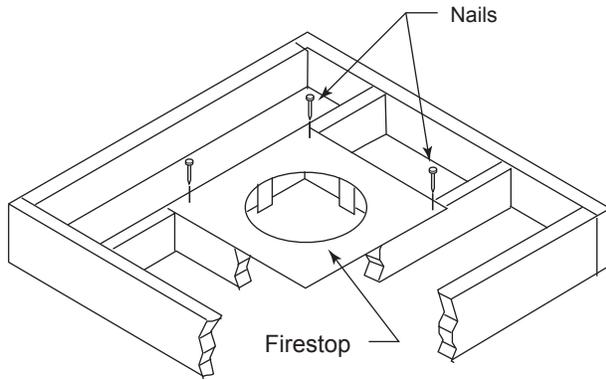
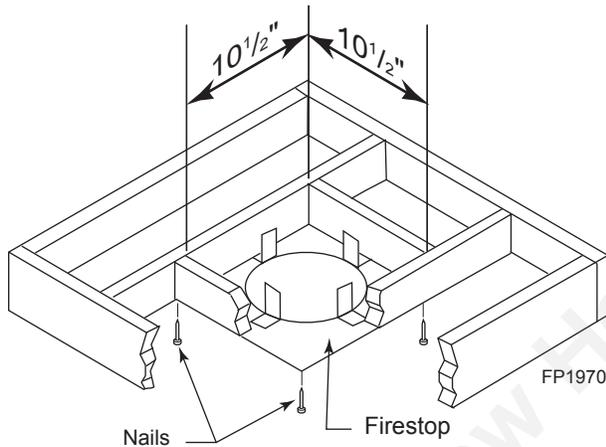

Figure 38 -
Figure 39 -
1. Cut a 10½" (267 mm) square hole in the ceiling using the locating hole as a center point. The opening should be framed to 10½" x 10½" (267 x 267 mm) inside dimensions as shown in Figure 39 using framing lumber the same size as the ceiling joist. If the area above the ceiling is an insulated ceiling or a room, nail firestop from the top side. This prevents loose insulation from falling into the required clearance space. Figure 39. Otherwise, install firestop below the framed hole. The firestop should be installed with no less than three (3) nails per side. Figure 38 or 39.